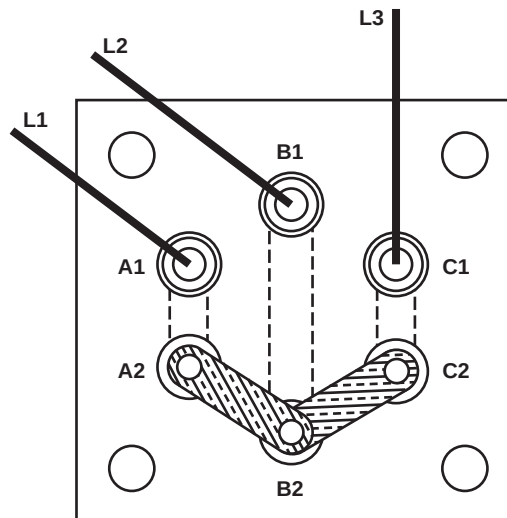

Figure 2. Heating Element Jumper Configuration
1. Verify that the jumper configuration on the new heating element matches the diagram in figure 2.